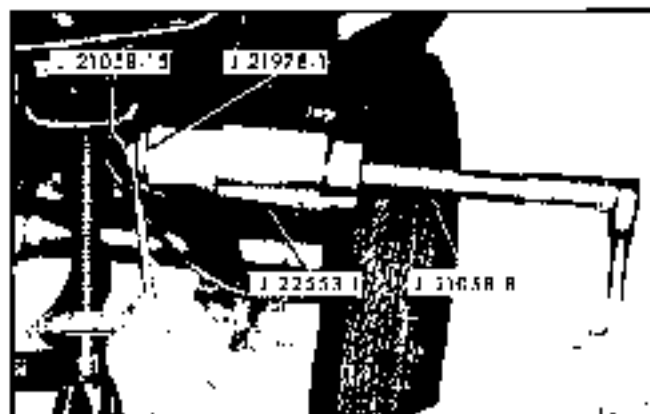

Fig. 4-2 Removing Spring Front Bushing—Firebird
b. Position remover adapter J 21978-1 over puller screw J 21058-15 so that adapter is against head of puller screw. Refer to Fig. 4-2 for view of removal tools.